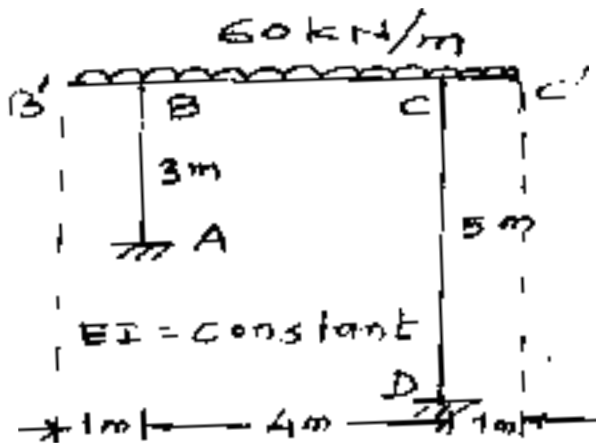

Fig 2
- b) Derive the stiffness matrix for the frame loaded and supported as shown in fig 2. 8